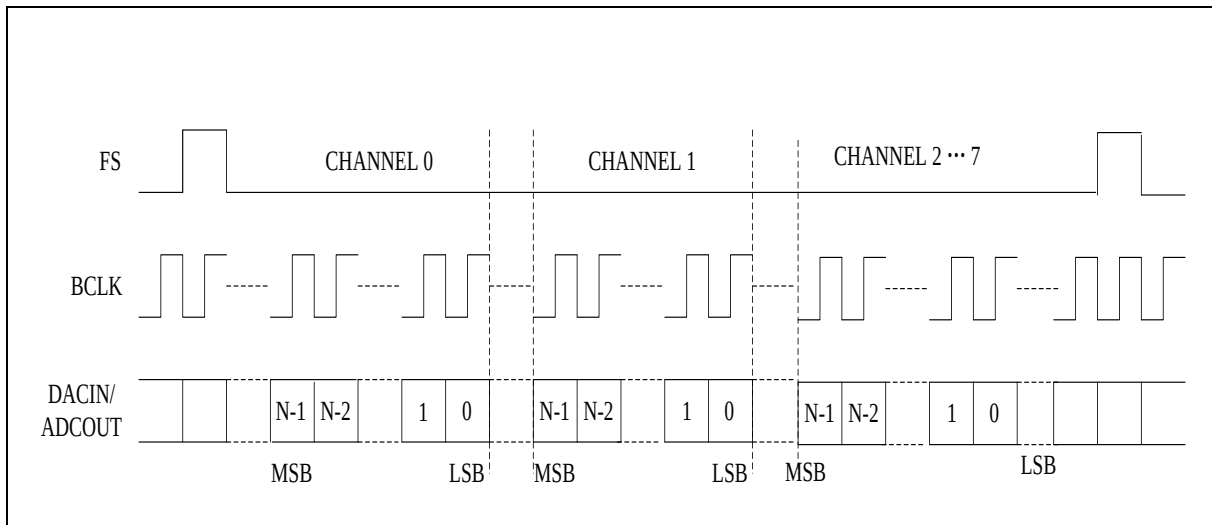

Figure 38 PCM Time Slot Audio Data
Normally, the DAC and ADC data are clocked immediately after the Frame Sync (FS); however, in PCM Time Slot Mode, the audio data can be delayed by setting **LEFT TIME SLOT TSLOT_L0 REG0XF[9:0]** and **RIGHT TIME SLOT TSLOT_R0 REG0X10[9:0]** for the left and right channels, respectively. **I2S_PCM_CTRL2 PCM_TS_EN0 REG0XE[10]** needs to be set to 1. These delays can be seen before the MSB in **Figure 38**.